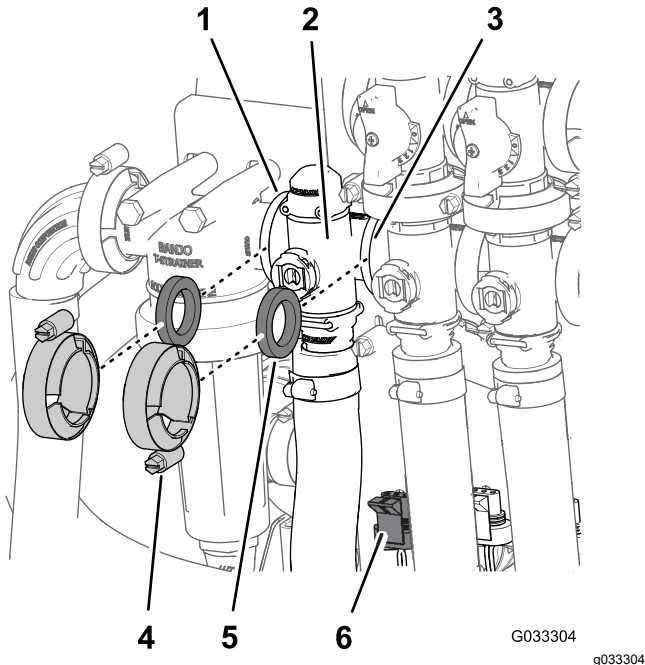

Figure 67
1. Remove the clamps and gaskets that secure the manifold for the rate-control valve (Figure 67).